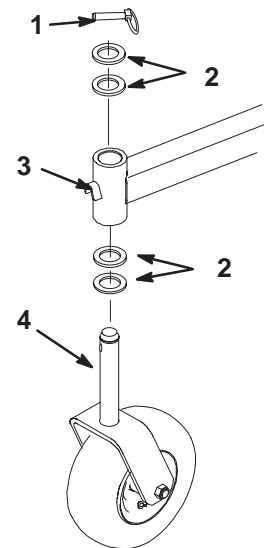

Figure 58
2. Remove the locking pin and spacer(s) from the top of the castor wheel fork (Fig. 58).
6. Inspect the castor wheel fork for wear and replace if necessary (Fig. 58).
7. Slide the castor wheel fork through the bushings in the mounting tube. Replace the spacer(s) onto the fork and secure with the retaining ring (Fig 58).